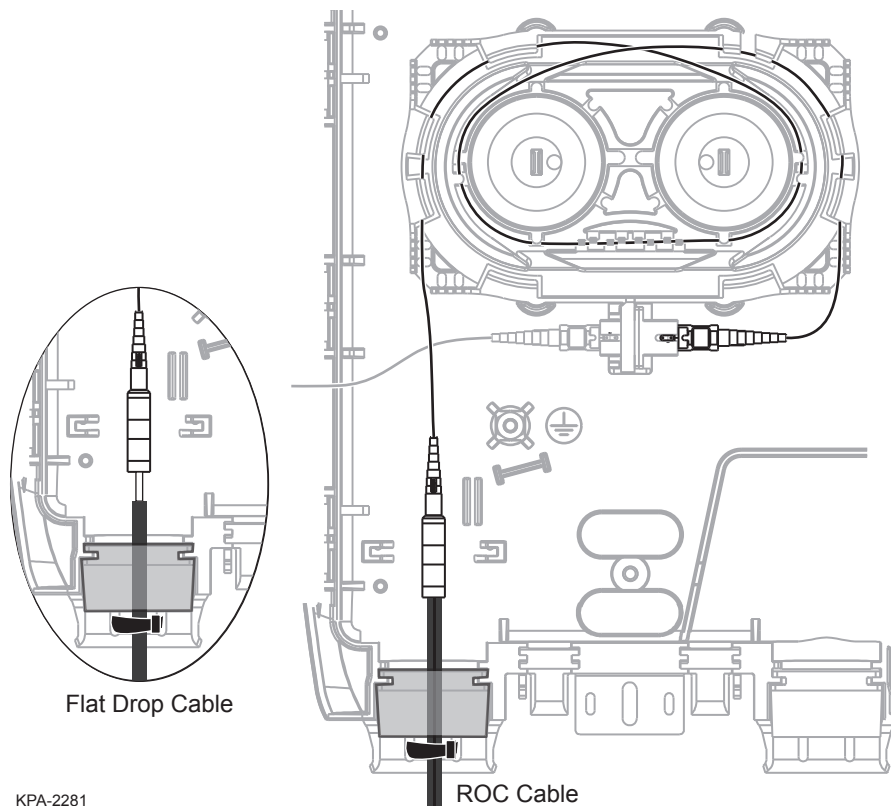

Figure 8 — Install Connector and Route to Adapter
**IMPORTANT:** NID configurations vary, so use the method most appropriate for the type of NID you are using. The Corning NID (p/n FNI-NGI-U1010) is shown as an example (Figure 8).
- Step 9:** Route the furcation tubing around the NID's fiber routing tray (Figure 8).
**IMPORTANT:** Figure 8 illustrates the Corning NID (p/n FNI-NGI-U1010), but fiber routing may differ depending on the actual NID used.